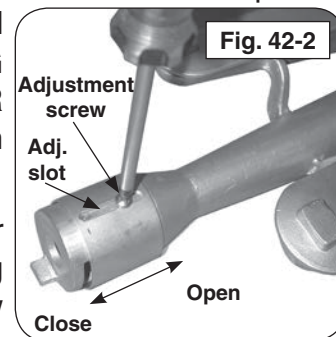

Fig. 42-2
2. Adjust the air shutter opening by loosening the adjustment screw with a screwdriver, then sliding the air shutter backward or forward to open or close the air shutter opening (see Fig. 42-2).